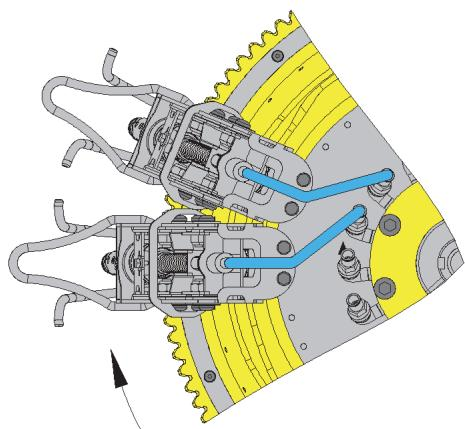
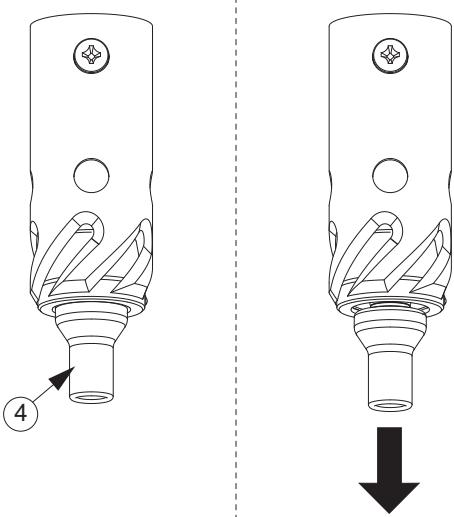

fig. 16 Distributor head hose connection
fig. 17 Cloaca pin position
- Check the hose connections: they must be attached so the air comes on after the cloaca pin **4** starts down. See fig. 16 and fig. 17.
See fig. 17.